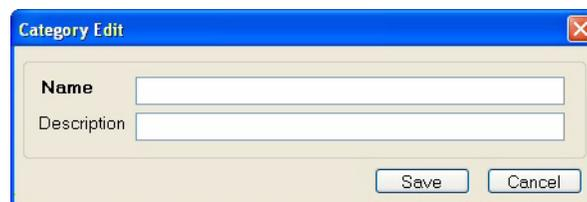

Figure 6-19 Category Edit dialog
1. In the Category Registration dialog, select a category and click **Edit**. The Category Edit dialog appears. (See Figure 6-19 above.)